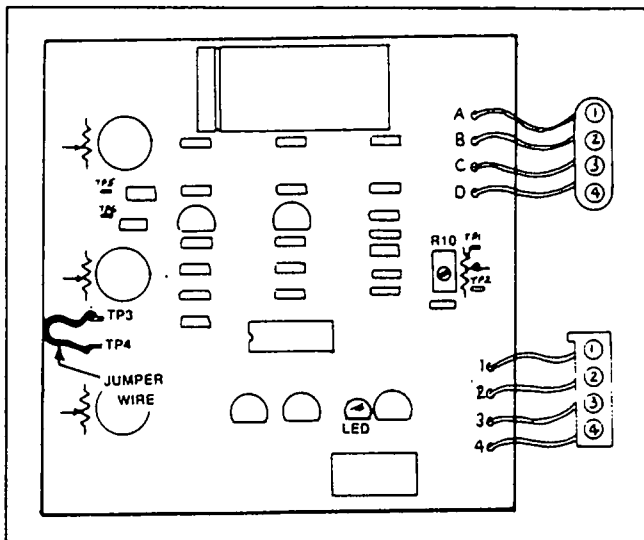

Figure 8. Utility Voltage Sensor Board Connectors
2. If retransfer back to "Utility" does not occur, test the Wires 199/202 action as follows (see Figure 8):